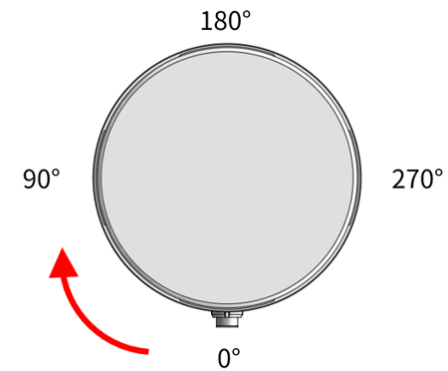
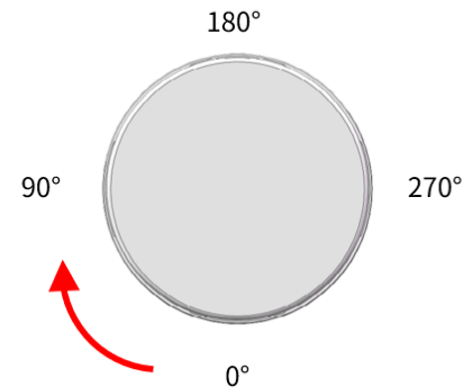

Figure 3. Lidar azimuthal position (top view)
Figure 5. Lidar azimuthal position (top view)
- Lidar azimuthal position is defined in Figure 3. Lidar azimuthal position \(top view\) and Figure 5. Lidar azimuthal position \(top view\). Y-axis corresponds to 0°.